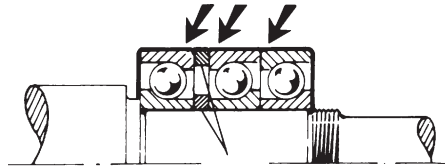

Fig. 13 Bearing Assemblies 5F and 6F
3. Heat the three angular contact ball bearings and mount them exactly as shown in Fig. 13. The spacing rings are placed on the shaft after the first bearing. Note that the rings are made to match and marked accordingly.